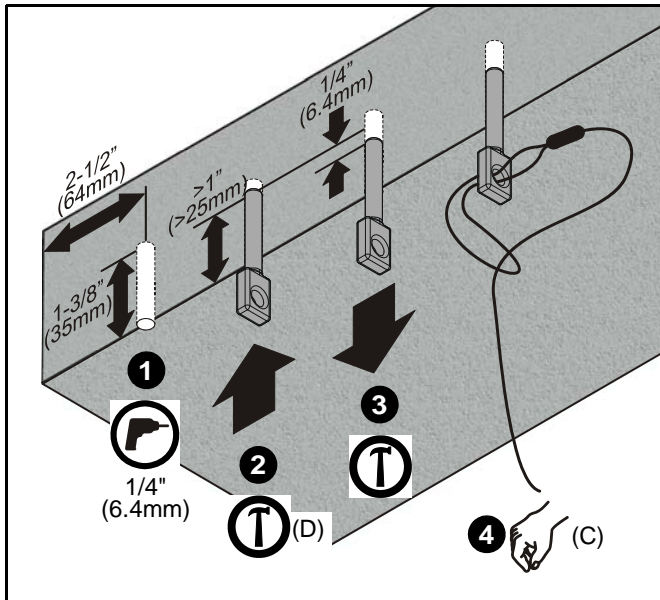

Figure 6
1. Drill 1/4" (6.4mm) diameter x 1-3/8" (35mm) deep hole at each marked cable anchor support location (See Figure 6). Ensure hole is at least 2-1/2" (64mm) from nearest concrete edge. Remove debris from hole.
2. Tap anchor (D) into each hole to a depth of at least 1" (25mm) (See Figure 6).
3. Using claw portion of hammer, set each anchor (D) by pulling it out of hole approximately 1/4" (6.4mm) (See Figure 6).
4. Insert portion of manufactured loop on cable (C) through hole in anchor (D) (See Figure 6). Insert end of cable (C) through loop. Repeat for remaining support locations.